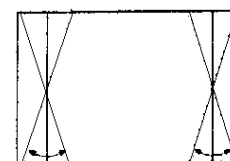

Fig. 4
- Adjust the PIN PHASE to obtain condition as in (fig. 4).